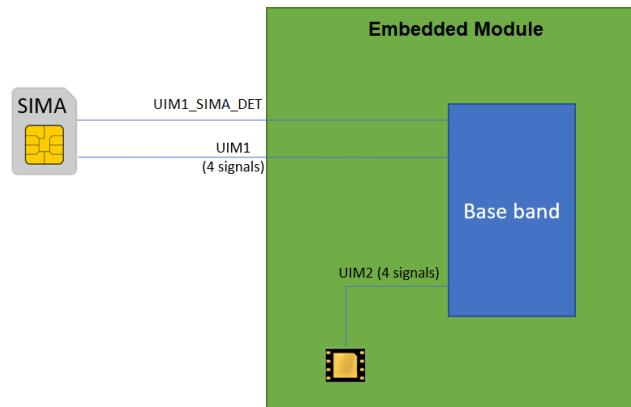
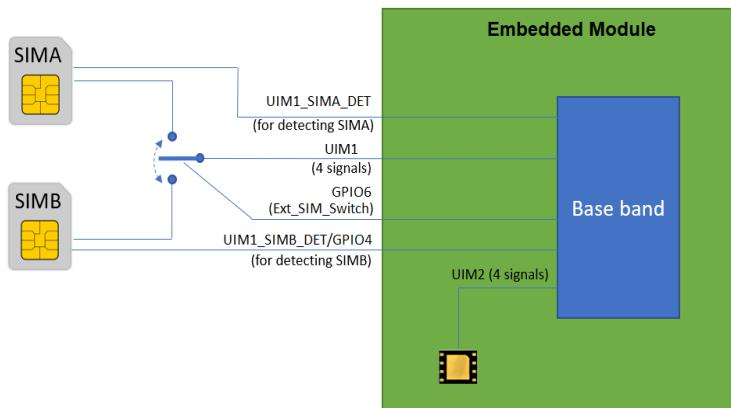

Figure 4-3: Single External SIM Configuration
Figure 4-4: Dual External SIM Configuration
- UIM1—this interface allows control of 1.8V or 2.85V UIMs. For RC7611, RC7611-1, RC7612, RC7612-1, RC7620, RC7620-1, RC7630, RC7630-1, and RC7630J\* it also supports single or external dual SIMs. For usage details, see Figure 4-3 and Figure 4-4.
Note: Figure 4-3 illustrates the recommended implementation of a single external SIM configuration. For a detailed UIM schematic, see Figure 5-8.
Note: Figure 4-4 illustrates the recommended implementation of a dual external SIM configuration. For a detailed external SIM schematic, see Figure 5-9.